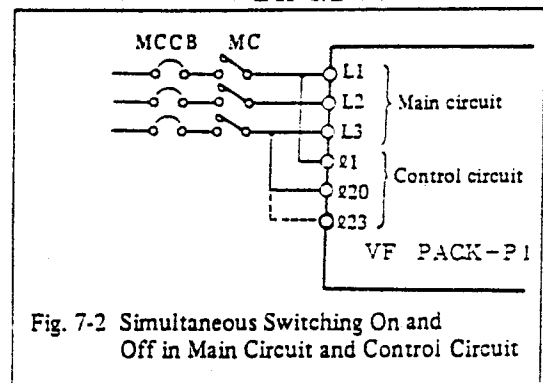

Fig. 7-2 Simultaneous Switching On and Off in Main Circuit and Control Circuit
- As shown in Fig. 7-2 below, control power source is obtainable; not from the primary side of the MC, but from the secondary side; thereby it is possible to switch on and off main power source and control power source simultaneously. Operation in this manner can cause the inverter protective function to operate. If this happen reset the inverter.